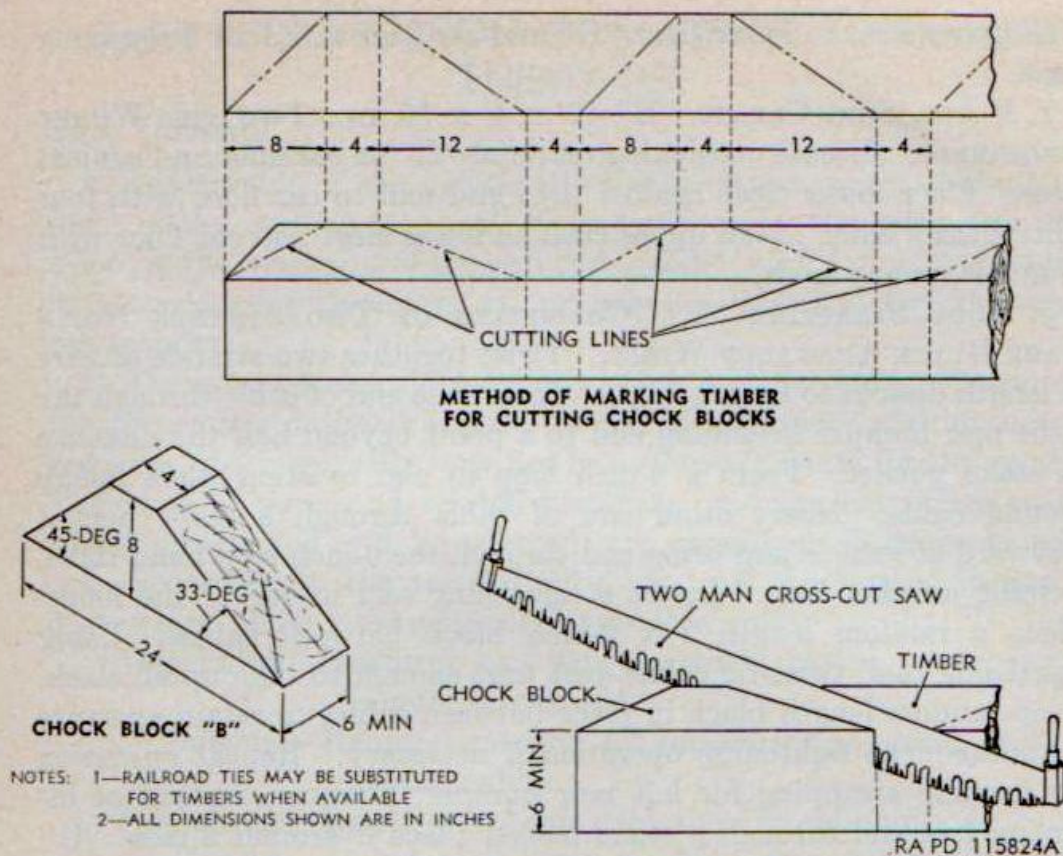

Figure 77. Cutting chock blocks from timbers.
**c. CHOCK BLOCKS "B"** (6 x 8 x 24 IN., FIG 77, FOUR REQUIRED PER VEHICLE). Locate the 45° surface of the chock block against the front of each front wheel and against the rear of each rear wheel. Nail the heel of the chock blocks to the floor of the car with three forty-penny nails. Toenail the sides of the chock blocks to car floor with two forty-penny nails.